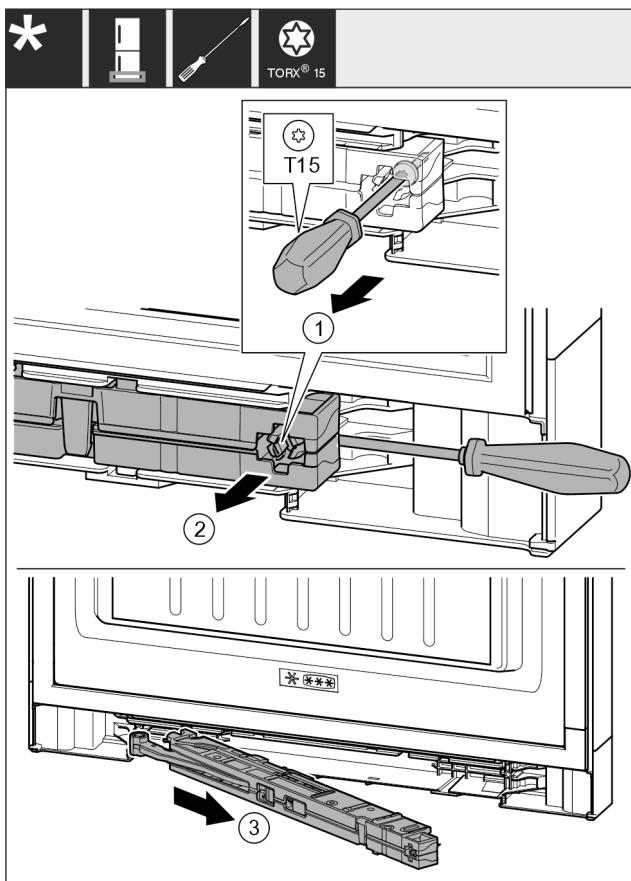

Fig. 19
- ▶ Loosen the screw Fig. 19 (1) on the closing damper unit with a 14 mm (9/16 in) screwdriver.
- ▶ Use the screwdriver to lift out the closing damper unit Fig. 19 (2) on the handle side.
- ▶ Pull out the closing damper unit Fig. 19 (3).